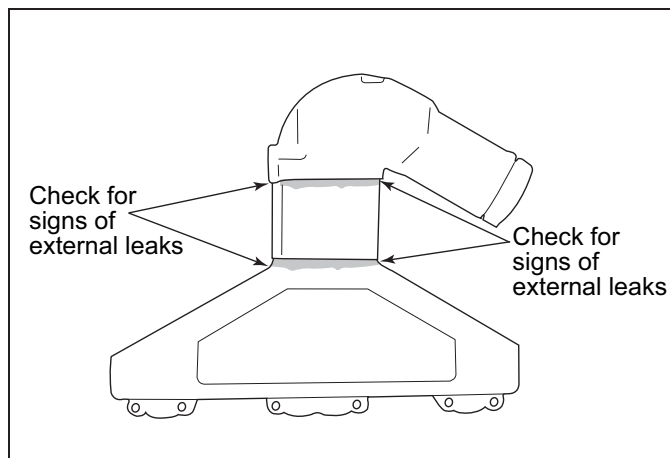

Figure 5-2A Water Leaks
- Cooling system for leaks. If equipped with fresh-water cooling, check coolant level in recovery bottle. Check for signs of water leaks at the exhaust manifolds, risers and elbows (Figure 5-2A). If the water is leaking externally, it is possible that the water is also leaking internally. This could result in internal engine damage. It is very important to service these maintenance items as soon as a problem is indicated.